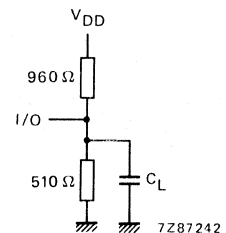

Fig. 4 Load for a.c. test conditions ($V_{DD} = 5 \text{ V} \pm 0,5 \text{ V}$).
$V_{DD} = 5 \text{ V} \pm 0,5 \text{ V}$; $V_{SS} = 0 \text{ V}$; $T_{amb} = -25 \text{ to } +70 \text{ }^\circ\text{C}$; measured in Fig. 4, $C_L = 100 \text{ pF}$; unless otherwise specified
A.C. TEST CONDITIONS (see Fig. 4)